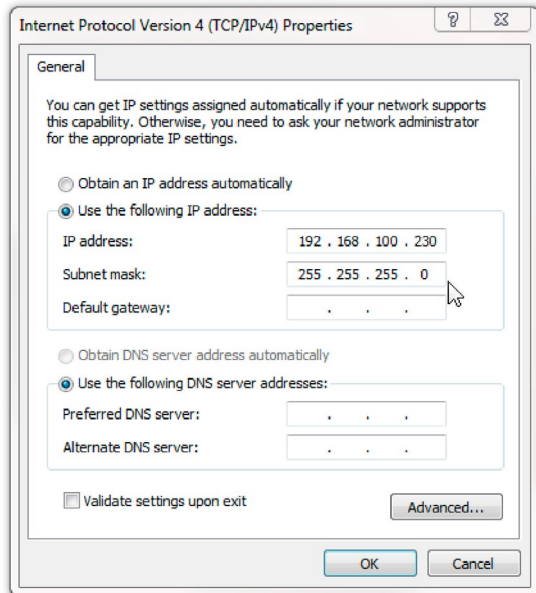

Fig. 50: Static IP address
5. Click the radio button “Use the following IP address” and set an own static IP address (Fig. 50).
Example (Fig. 50):